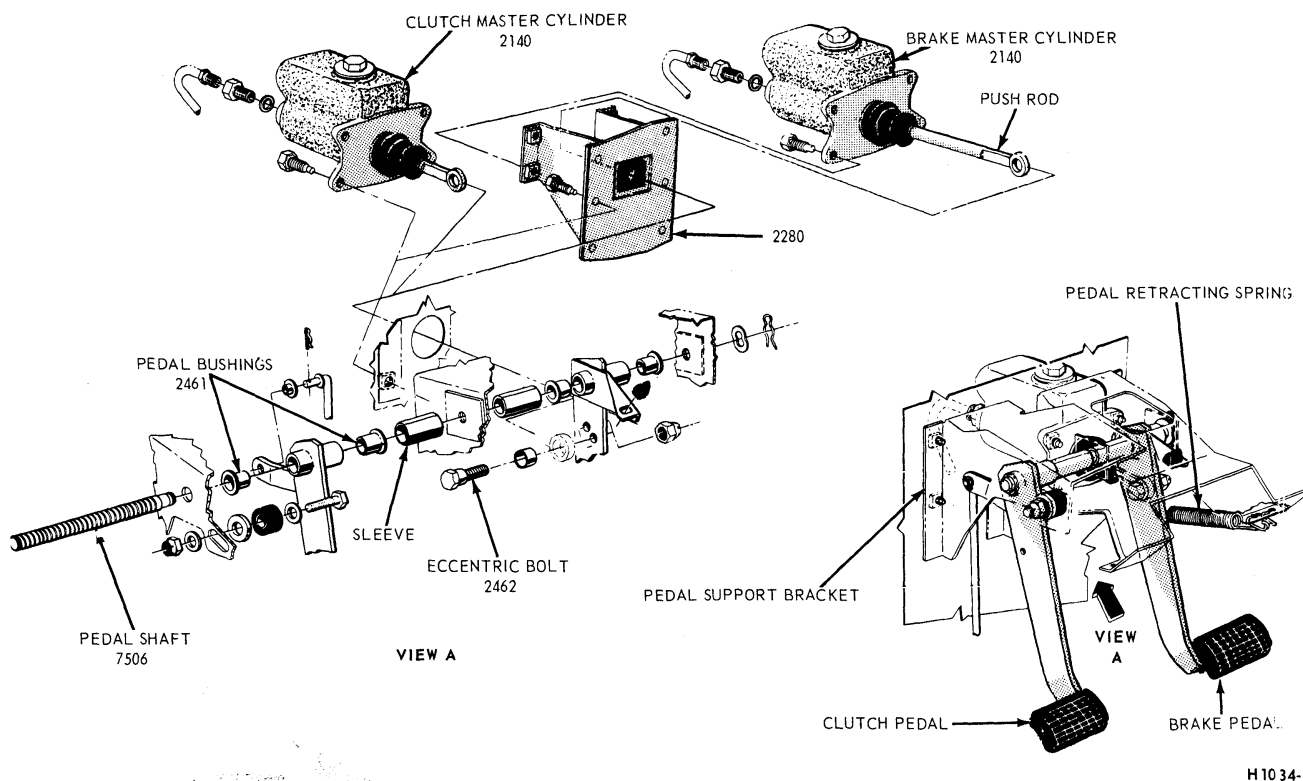

FIG. 7 L-, LN-, or LT-Series Brake Pedal and Related Parts
1. Remove the brake pedal retracting spring (Fig. 7).